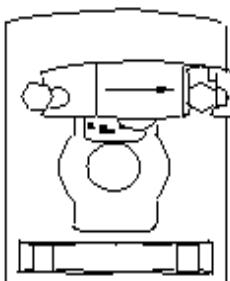

Fig. 1
2. Slide the knifeholder to the right (Fig.1)